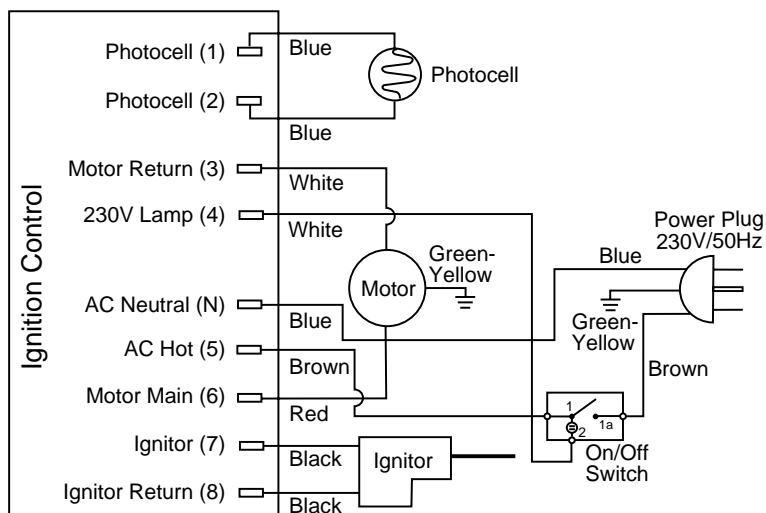

**Figure 29 - Replacing Fuse**
2. Remove side cover screws (4) using 5/16" nut-driver to expose ignition control assembly.
3. Remove fuse cover (see Figure 29).